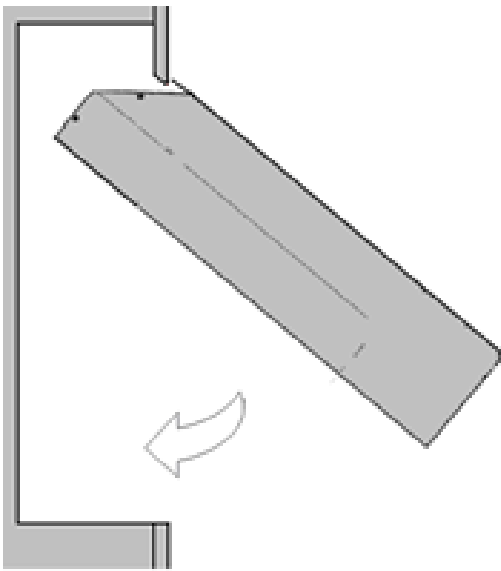

Figure 4 – Installation
- Swing the unit into the opening and rest the bottom of the fire onto the bottom of the recess as shown in Fig.4.